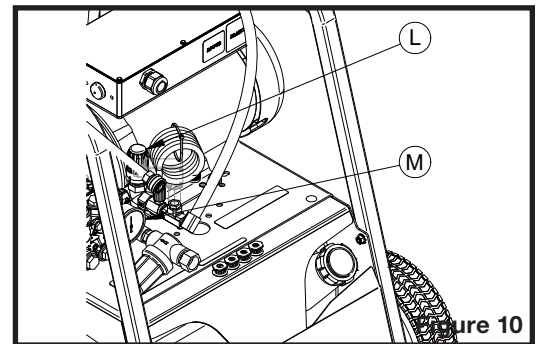

Figure 10
8. Pressure can be adjusted by means of the high pressure regulator (L on figure 10) up to 3000 psi. Pressure is read on the pressure gauge (M on figure 10).